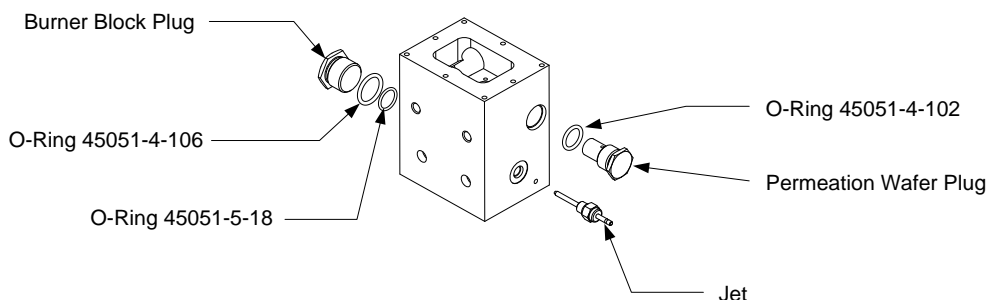

Fig. 7.4. Burner Block, Showing O-Rings
2. To remove a particular O-Ring, carefully remove the associated connector and then remove the O-Ring (see Figure 7.4).
5. Carefully remove the Jet Nut and O-Ring (see Figure 7.4).